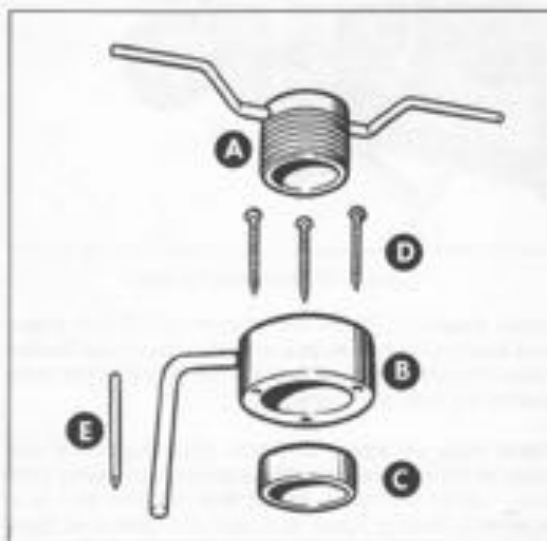

Figure 4-8. Main Drive Gear Oil Seal Tool
Main Drive Gear Oil Seal Tool, Part No. 95660-42, (Figure 4-8) enables removing worn or damaged oil seal and installing new seal without removing or disassembling transmission. It may be used on transmission removed from chassis as well. To use, transmission must be assembled with the exception of clutch and transmission sprocket.
Place sleeve (C, Figure 4-8) on end of main drive gear. Slide body (B) over sleeve with body stop rod downward. Turn body clockwise until stop bears against transmission case or mounting plate. Hold body in this position and insert center punch (E) through each of the three holes in body and center punch oil seal as shown in Figure 4-9.
Insert sleeve (C, Figure 4-8) into oil seal. Place sleeve and seal on main drive gear with lip side of seal toward transmission case. Turn seal so it will not stake at same points old seal was staked.